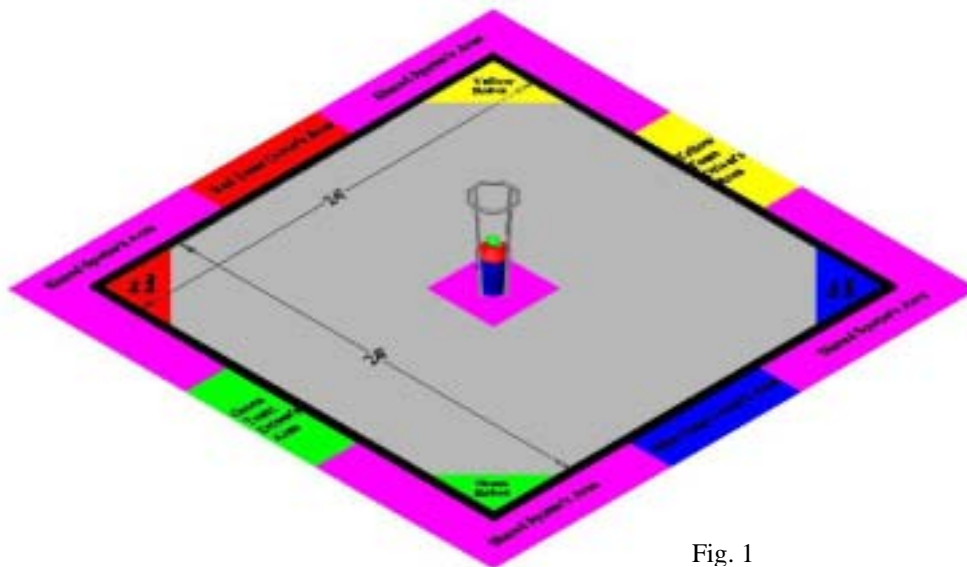

Fig. 1
2. The main floor area is a large flat space detailed as below and shown in Fig. 1. The surface will be either: